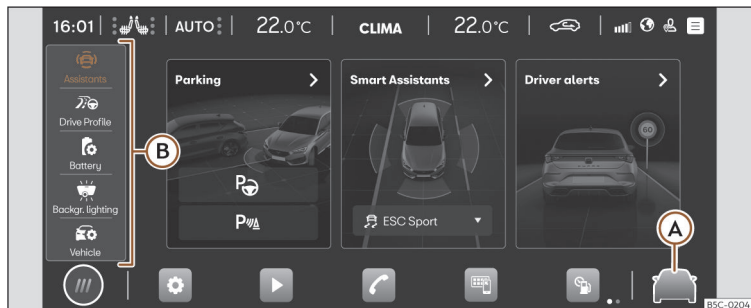

Fig. 14 Schematic diagram: Assistants and vehicle settings
Press >>> **Fig. 14 (A)**, or **Vehicle settings** in the main menu to open the assistants and vehicle settings menu. Next, clicking on any of the menus located in the left area **(B)**, displays the settings menu or the selected assist systems on the display.